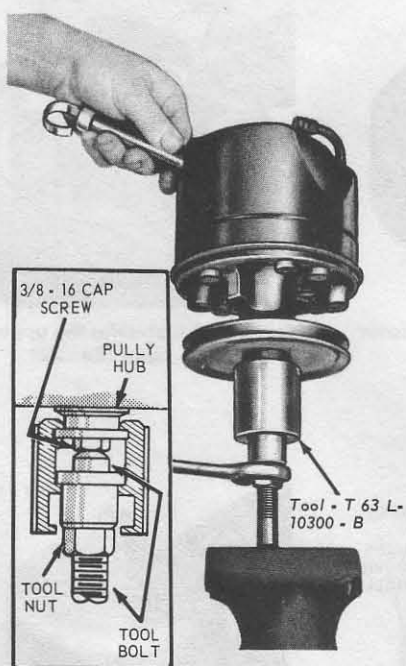

Fig. 11.27 Removing the power steering pump pulley (Sec 22)
- 11 Using a suitable puller remove the pump pulley. Install a $\frac{3}{8}$ – 16 in capscrow in the end of the pump shaft to prevent damaging the end of the shaft (see Fig. 11.27). **Note:** To prevent damage to the internal thrust areas the pulley must be removed without applying in-and-out pressure on the pump shaft.